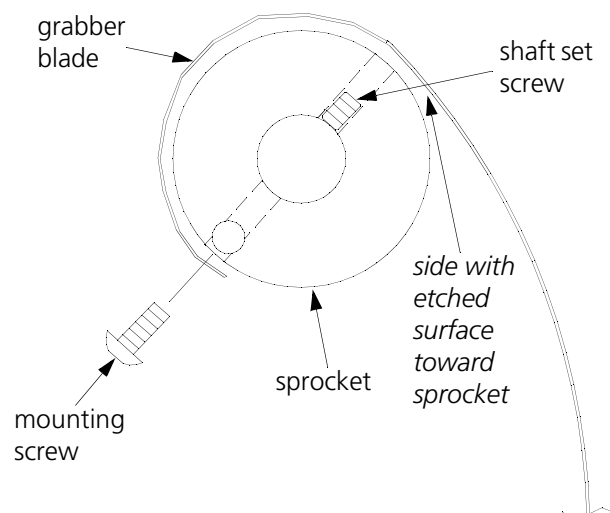

Figure 3-35
2. Remove the mounting screw and pull out the old, damaged, or broken grabber blade (see Figure 3-35).
6. On the defective grabber assembly, pull the grabber blade outward until the set screw holding the assembly to the shaft is visible (refer to Figure 3-35).